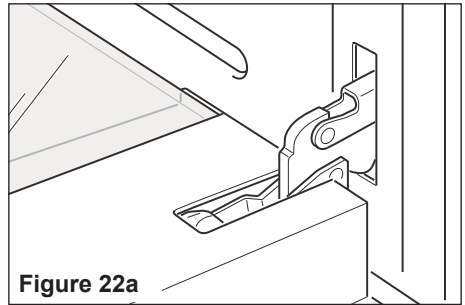

Figure 22a
- Open the door to the full extent (fig. 22a).